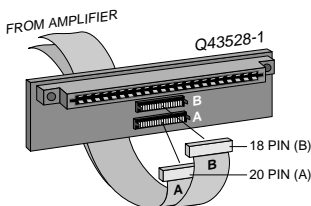

Fig. 3.5 *PIP2* Input Adapter Connection
2. Remove the existing *PIP* module or panel (two screws). For *PIP2* amplifiers, this may involve disconnecting the *PIP* from a *PIP2* input adapter (see Figures 3.5 and 3.6). If a *PIP2* input adapter is already present do not remove the ribbon cables from the adapter. Otherwise you will have to reconnect them in the next step.
input cables of the amplifier (see Figure 3.5). Notice that the *PIP2* input adapter should be positioned with the *PIP* edge connector on top and facing away from the amplifier. The 20-pin cable (A) is connected first, then the 18-pin cable (B) is connected. Both ribbon cables should extend below the *PIP2* input adapter.